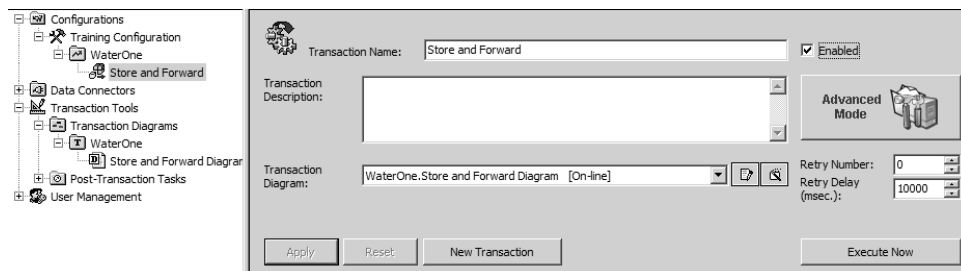

Figure L4.9 - Enabled transaction
4. Click on Apply. Your final configuration should resemble Figure L4.9.